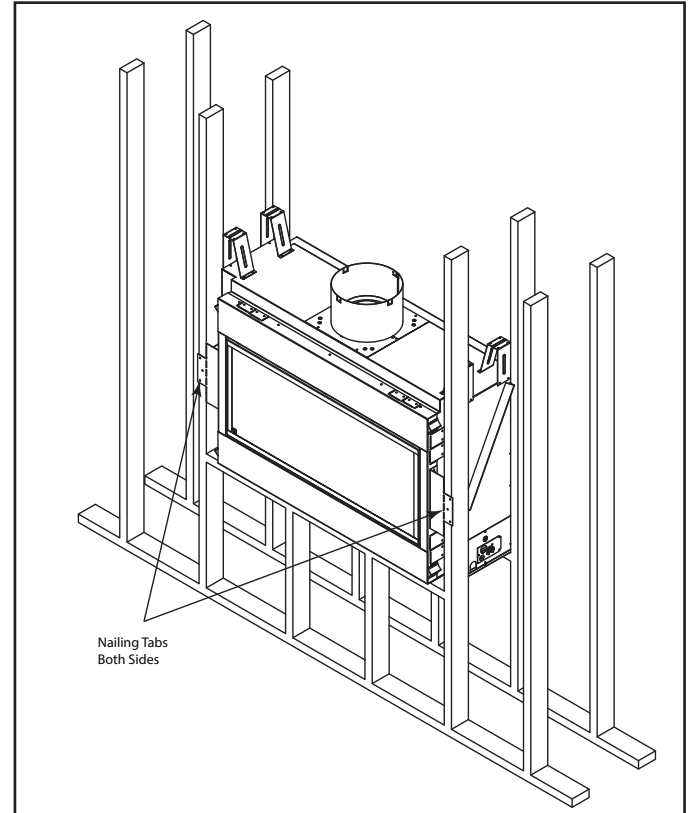

Figure 4.1 Nailing Tab Locations
- Keep nailing tabs flush with the framing. See Figure 4.1.